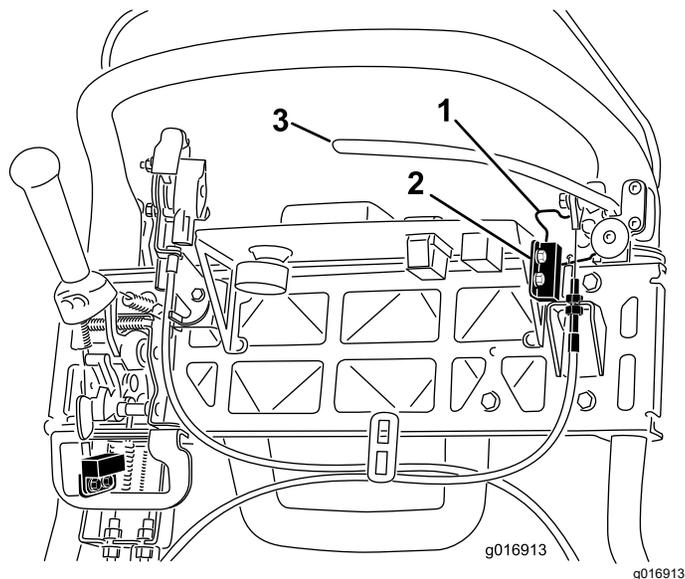

Figure 38
4. Loosen and remove the interlock switch mounting fasteners (Figure 38).
5. Place a 1.6 mm (0.062 inch) thick shim between the parking-brake latch and the interlock switch (Figure 38).